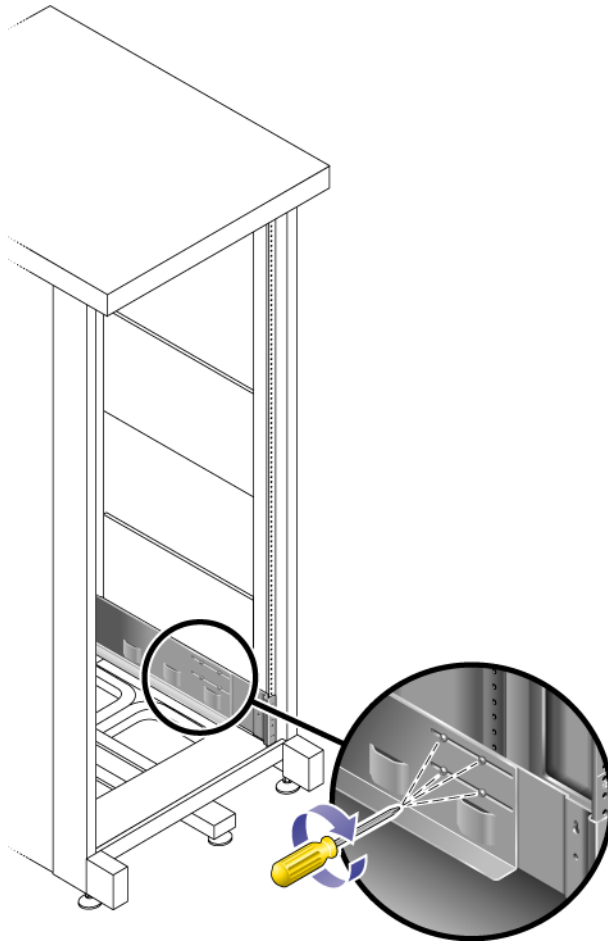

FIGURE 2-6 Tightening the Rail Adjustment Screws
8. Using the No. 2 Phillips screwdriver, tighten the eight adjustment screws (four on each side) toward the back of each rail (FIGURE 2-6).